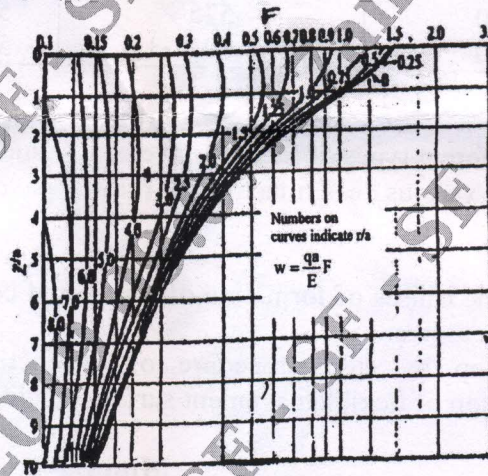

Fig.Q.2(b)
- b. A dual wheel load assembly with 70kN load on each wheel and contact pressure of  $0.7\text{kN/mm}^2$  is applied on a homogeneous mass with modulus of elasticity  $12\text{N/mm}^2$ . If the centre to centre distance between the two wheel is 600mm, determine the deflection value at a depth of 0.5m at four points, at the centre of dual wheels and at radial distance of 300, 600 and 900mm from this centre along the line joining centers of the two wheel loads. Use deflection factor chart Fig.Q.2(b). (08 Marks)